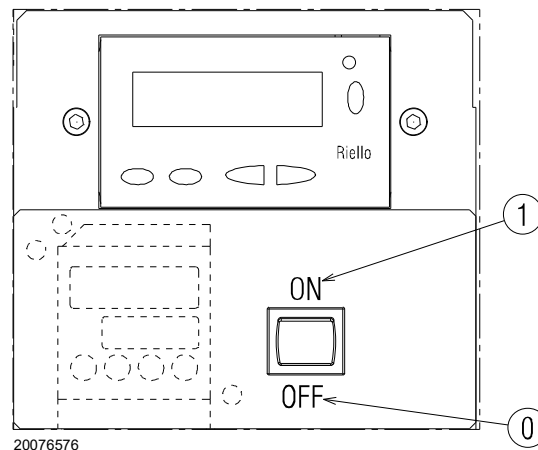

Fig. 26
Close the thermostats/pressure switches and set the switch of Fig. 26 to “1/ON”.
- put the switch of Fig. 26 to “0/OFF” and wait until the flame control carries out the switching off phase;
The burner is in the heat request waiting mode, or the selector “0-1” (Fig. 26 on page 31) is at “0”.